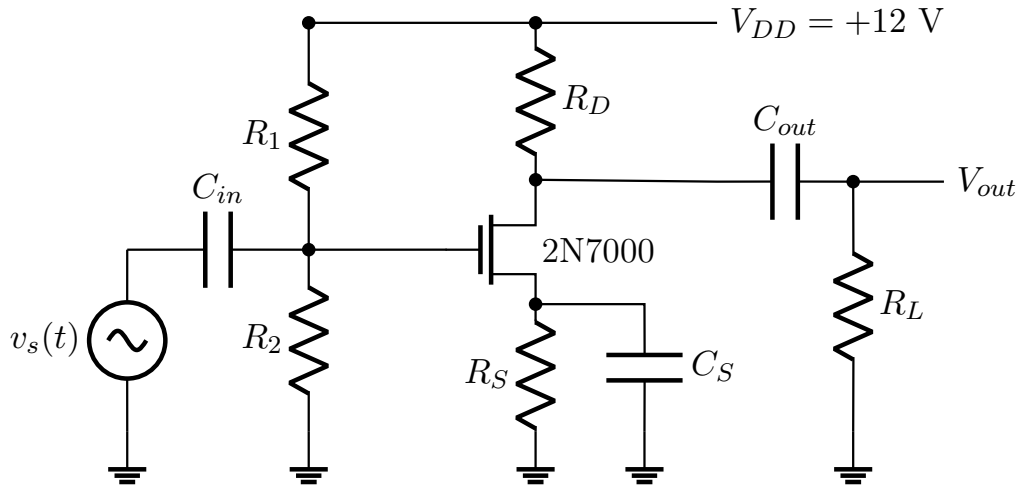

Figure 5.1: Circuit Diagram of a Single-Stage Voltage-Divider Biased CS MOSFET Amplifier
The schematic for the single-stage voltage-divider biased CS MOSFET amplifier is presented in Figure 5.1.
1. Set up the discrete components on the breadboard based on the schematic in Figure 5.1. Keep the signal source and the load resistor disconnected at this step.